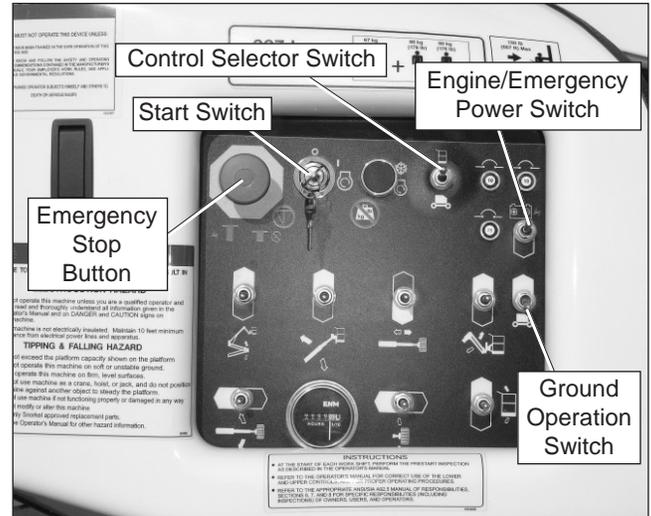

Figure 10.2 – Lower Controls
2. Place the key in the start switch (refer to Figure 10.2) and turn the start switch to the on position.